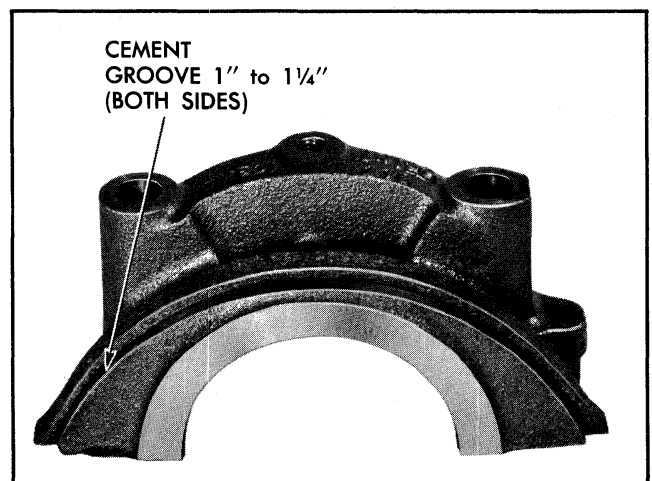

Fig. 6-126 Rear Oil Pan Gasket Positioned in Bearing Cap
2. Install new oil pan gasket in rear main bearing cap (Fig. 6-126).
5. Install clutch (SM) and transmission to engine and install complete assembly in vehicle.